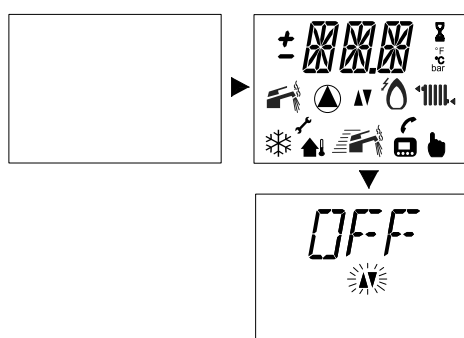

Figure 15.5
- Electrically power the boiler safely. The LCD display will show the sequence in Figure 15.5.